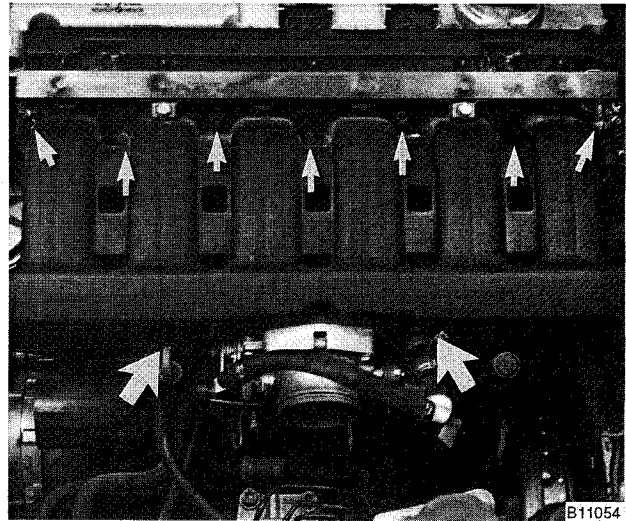

Fig. 32. Intake manifold nuts and support bracket bolts (arrows).
22. Remove intake manifold from engine by removing seven mounting nuts from above and two support bracket bolts from below. See Fig. 32.